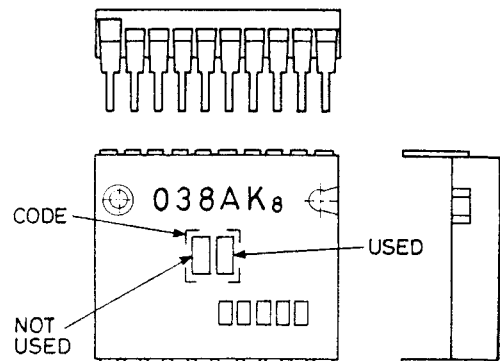

Fig. 4-3
4) Sensor Sub Voltage Adjustment (Fig. 4-3, 4-51)